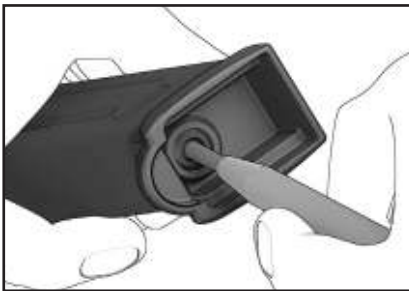

Figure 34
1. Using a punch, depress the locking plate located in the floorplate and hold it there (see Figure 34).